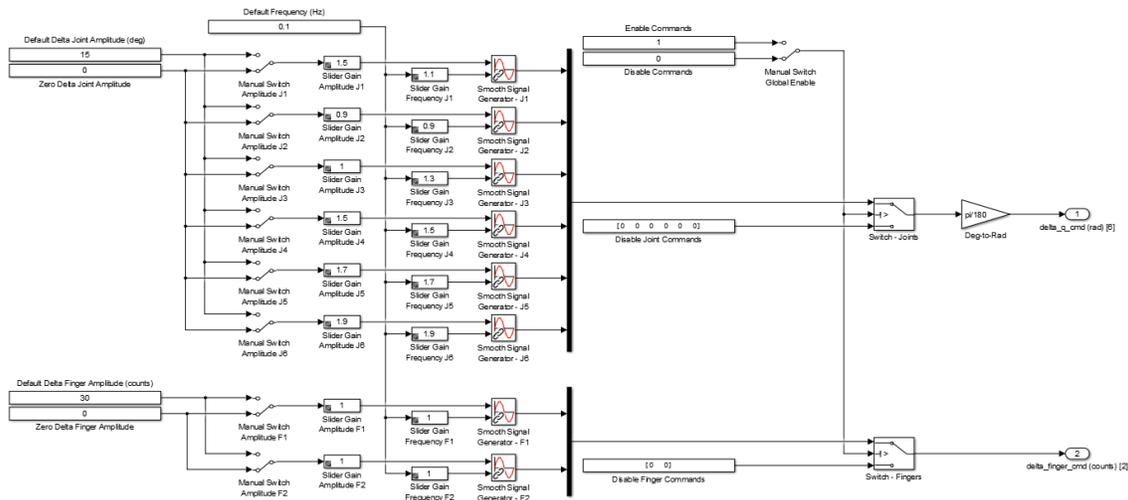

Figure 3.2: Relative joint commands in MICO\_Basic\_IO\_6DOF.slx model
7. In the *Generate Joint Commands* subsystem shown in Figure 3.2, set the *Manual Switch Global Enable* to the upward *Enable Commands* position.